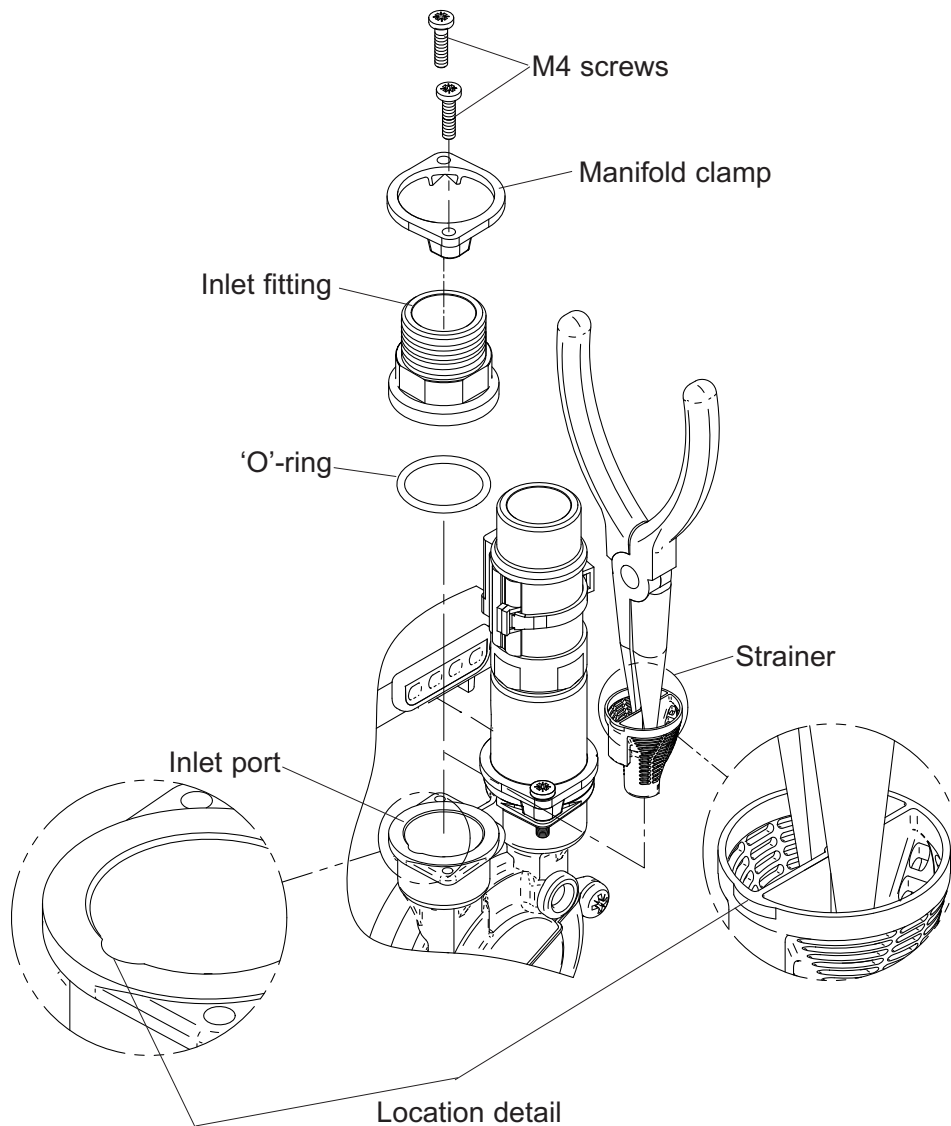

Fig. 15
- d) Remove M4 screws (2 off) from inlet assembly, lift brass inlet fitting (with 'O'-ring) and clamp away from pump casing (Fig. 15).
- e) Remove strainer with long nose pliers noting location lug position upon removal (Fig. 15) and clean thoroughly.
- f) Refit strainer taking care to position lug in body inlet port location slot (Fig. 15) and re-assemble pipework. Tighten M4 clamp screws to 1.5 Nm torque.